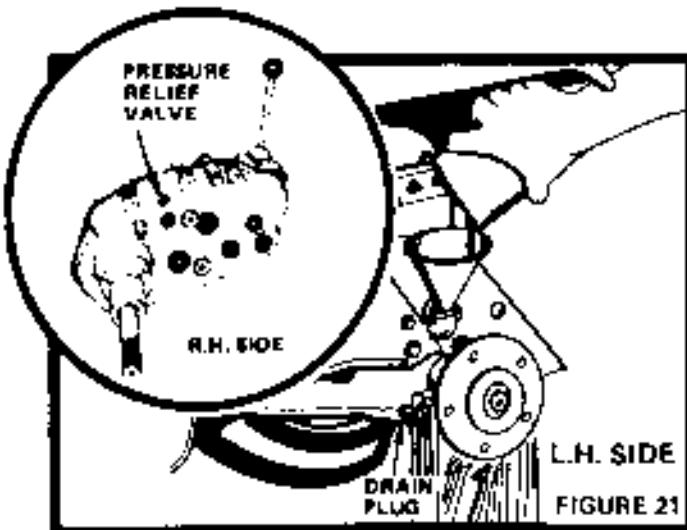

FIGURE 21
- c. Refill Transaxle with S.A.E. 30 (SC, SD or SE) Motor Oil. Capacity is 5 quarts. Pressure Relief Valve (R.H. side of Transaxle) (Fig. 21 - Inset) may be held open to allow Transaxle to fill more quickly.